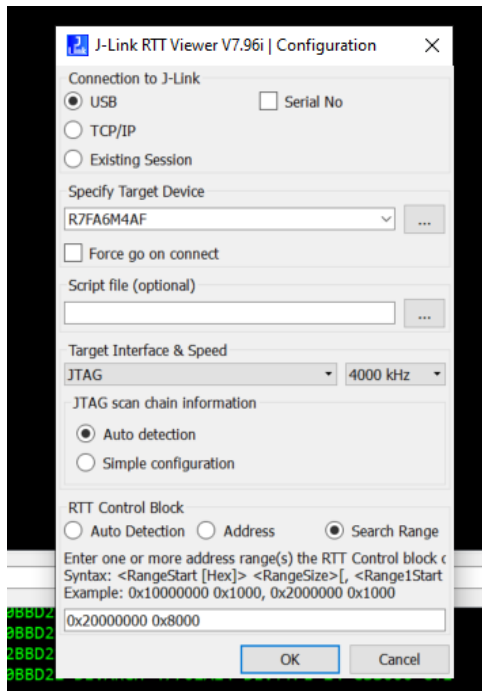

Figure 13. RTT Viewer Options
5. Ensure your configuration matches the configuration shown in Figure 13.